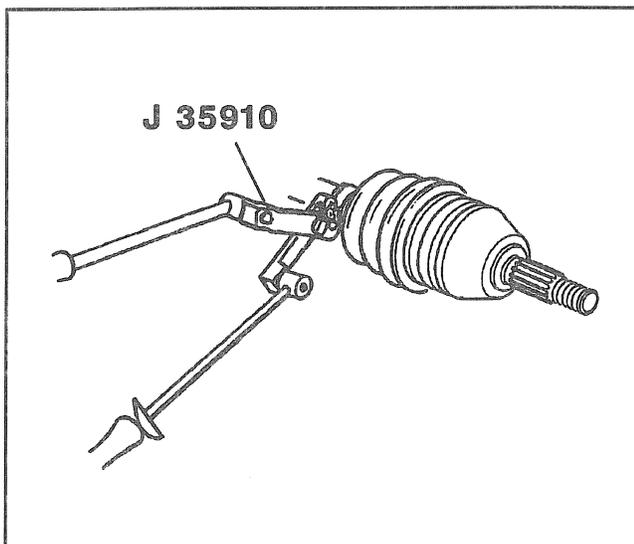

Figure 56—Installing Seal Retaining Clamp
- B. Crimp the self retaining clamp with J 35910 to 136 N.m (100 lb. ft.) (Figure 56).
↔ Install or Connect (Figures 56, 63 through 65)
- Crimp seal retaining clamp using J 35910 to 136 N.m (100 lb. ft.) (Figure 56).